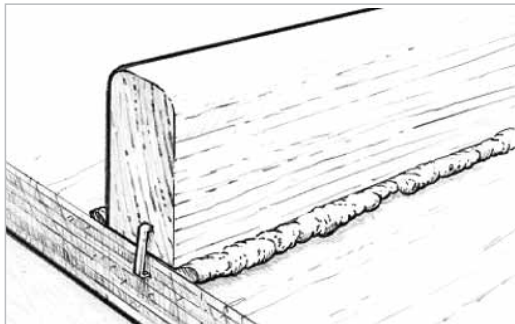

Figure 5-10 A small amount of epoxy will squeeze out of the joint with just the right amount of thickened mixture and clamping pressure.
3. Clamp components. Attach clamps as necessary to hold the components in place. Use just enough clamping pressure to squeeze a small amount of the epoxy mixture from the joint, indicating that the epoxy is making good contact with both mating surfaces (*Figure 5-10*). Avoid using too much clamping pressure, which can squeeze all of the epoxy mixture out of the joint.